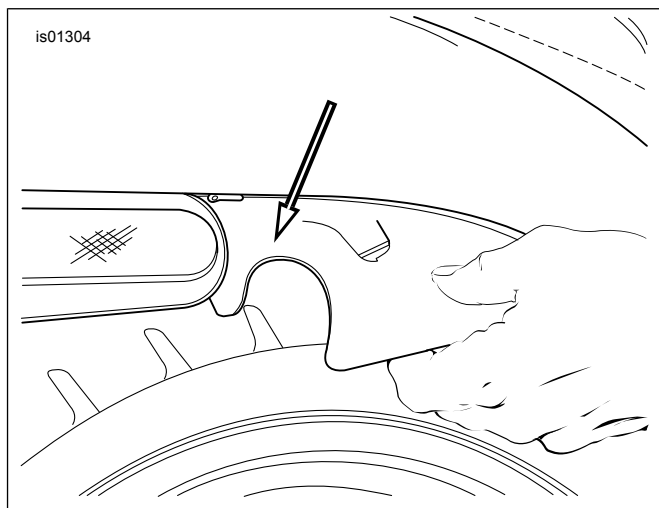

Figure 2. Lower the Mud Flap (2002-2006 VRSCA/B/D)
3. See Figure 2. Lower the mud flap from the installed position. Allow it to rest on the rear tire.